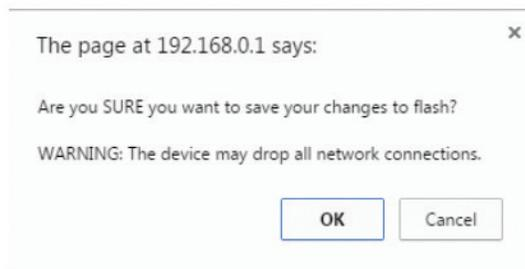

Figure 9: QuickConnect WLAN Profile Confirmation
6. Confirm the changes by selecting “OK” if prompted as shown below in Figure 9.